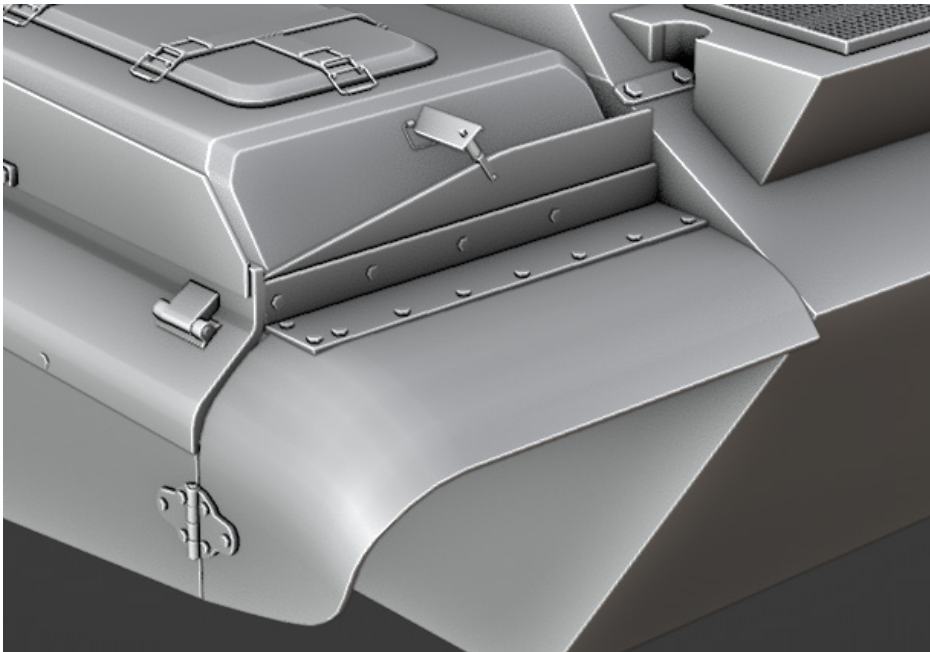

Figure 8.55 – The skirt back end
10. Continue adding more details using tools and techniques that we have already covered. *Figure 8.55* shows the back end of the skirt.